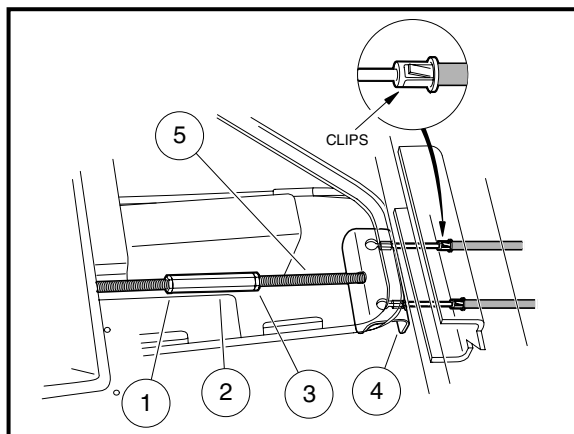
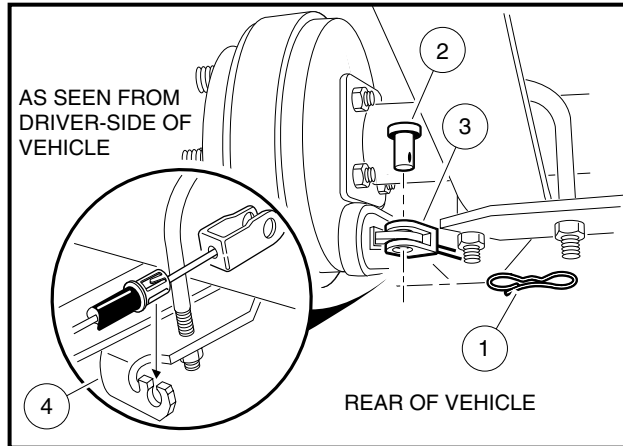
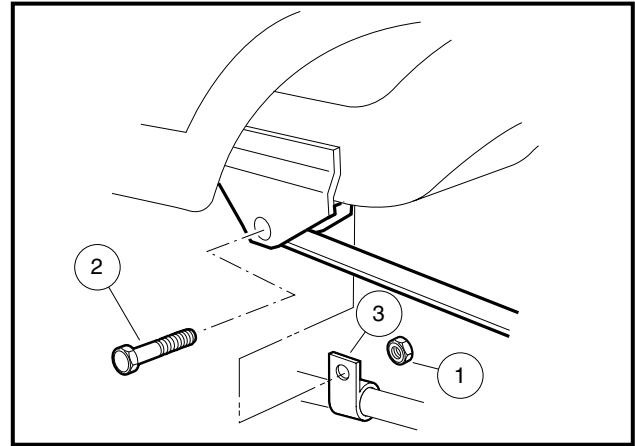

Figure 6-19 Loosen Brake Cables
Figure 6-20 Disconnect Cables at Rear Brakes
Figure 6-21 Brake Cable Mounting Tab
4. Loosen the two jam nuts (1 and 3) on either side of turnbuckle (2) (**Figure 6-19, Page 6-11**). Note that the forward jam nut (1) is a left-hand thread. Thread each nut approximately 1/2 inch (12.7 mm) away from the turnbuckle.
5. Loosen turnbuckle (2) until the lag bolt (5) is free of the turnbuckle.
6. Rotate the lag bolt (5) and equalizer bracket (4) to the upright position then slip the cable heads out of the bracket.
7. Remove nut (1) from the bolt (2) that secures front of the leaf spring (**Figure 6-21, Page 6-12**). Do not remove bolt (2).
8. Remove the mounting tab (3) of the brake cable from the bolt.
10. Remove bow tie locking pin (1) and the clevis pin (2) from the brake lever on each wheel and pull the clevis (3) away from the lever. (**Figure 6-20, Page 6-12**).
11. Using brake cable release tool (CCI P/N 102555501), compress the retaining clips on the end of the cable housing enough to slip the cable end out of the bracket (4) and remove the brake cable from the vehicle.
1. Insert the end of the new brake cable through the hole in the frame (**Figure 6-19, Page 6-11**). Push on the cable housing so the clips on the housing ends secure the housing in the hole.
2. Hold the lag bolt (5) and the equalizer bracket (4) in the upright position and slip the cable head through the hole on top of the bracket. Pivot the equalizer to the horizontal position to capture the cable heads in the equalizer.
3. Insert the rear cable housing into the shock mount bracket (4) (**Figure 6-20, Page 6-12**). Push the cable housing end into the bracket to ensure the clips on the housing end secure the cable in position.
4. At the rear wheel brake, connect the cable to the brake actuator arm using new clevis pin (2) and new bow tie locking pin (1) (**Figure 6-20, Page 6-12**).
5. Place tab (3) on cable housing over the forward leaf spring mounting bolt (2) (**Figure 6-21, Page 6-12**). Install nut (1). Tighten nut to 18.4 ft-lb (25 N·m).